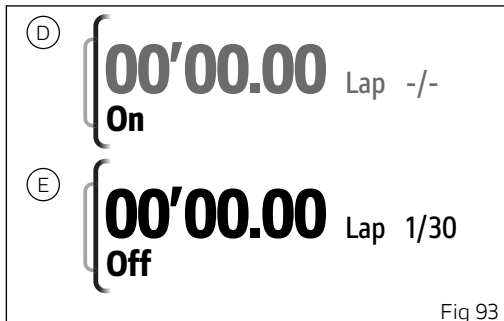

Fig 93
- If the function is disabled, "Off" is shown with the stopwatch (D, Fig 93); press ENTER button (3) to enable the function.
- If the function is enabled, "On" is shown with the stopwatch and indication of the available laps (E, Fig 93); press ENTER button (3) to disable the function.